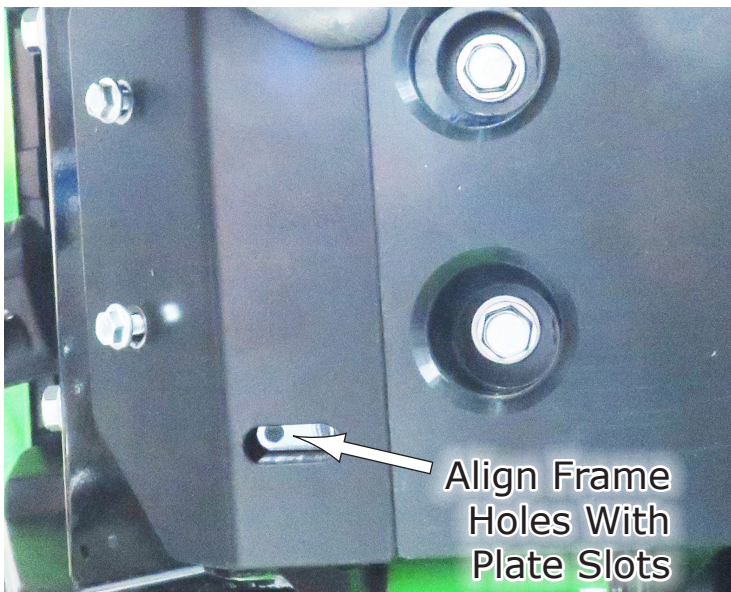
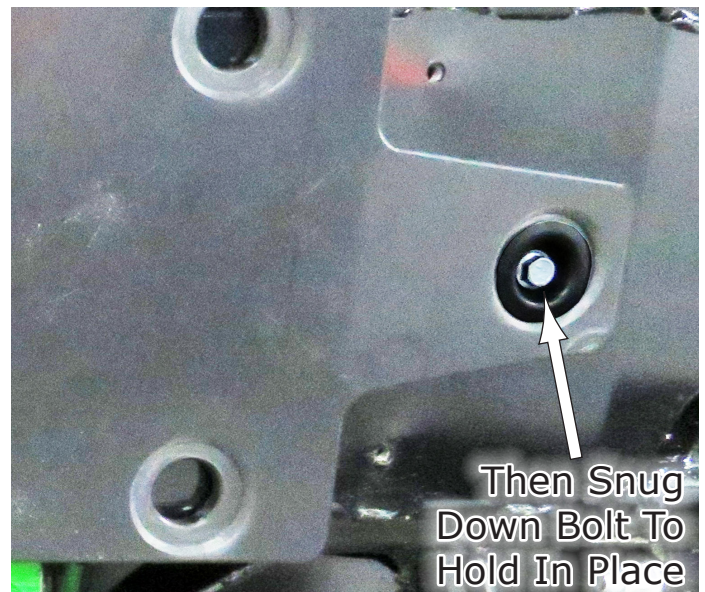

Fig.6a
Fig.6b
6. Then **Align** the **Two Front Holes** up as shown in **Fig.6a** and then **Snug** down the **Bolt** and **Bowl Washer**, **Fig. 6b**, to hold the plate in that position. Those two holes and others will need to be drilled out later in the instructions.